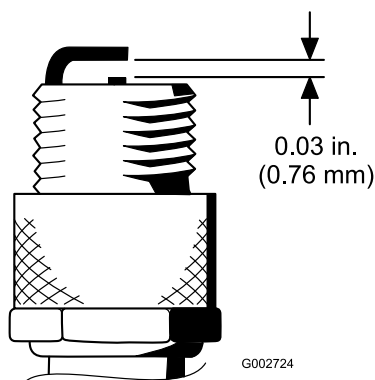

Figure 30
- Set the air gap between the center and side of the electrodes at 0.76 mm (0.030 inch) as shown in Figure 30.